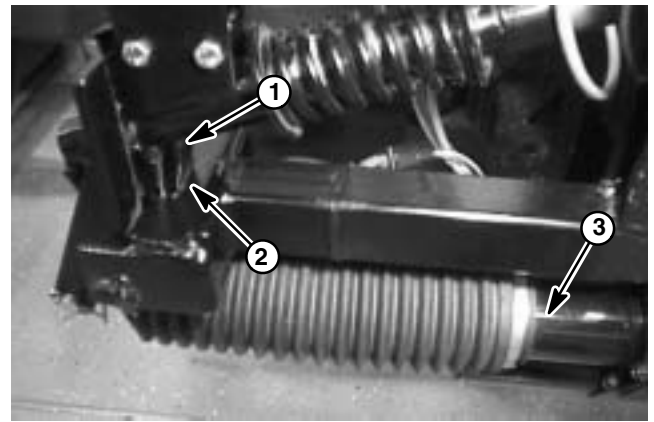

Figure 46
3. With the boom actuator at full extension, the break-away pivot gusset should just touch the center boom frame slot (Fig. 46).